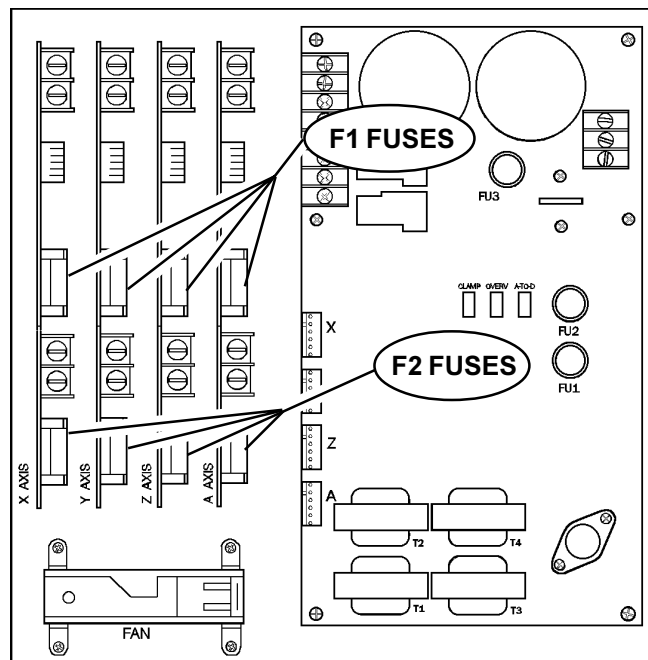

Fig. 3-4 Servo drive assembly; fuse locations.
3. On the SERVO DRIVE ASSEMBLY, there are three fuses on the SDIST panel, and three individual fuses on each of the SERVO DRIVE boards (See Fig. 3-4; the **F3** fuses are not shown).